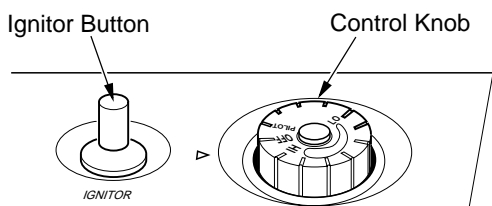

Figure 21 - Control Knob In The OFF Position
4. Wait five (5) minutes to clear out any gas. Then smell for gas, including near the floor. If you smell gas, **STOP!** Follow "B" in the safety information, column 1. If you don't smell gas, go to the next step.
5. Turn control knob counterclockwise  to the PILOT position. Press in control knob for five (5) seconds (see Figure 21, page 15).